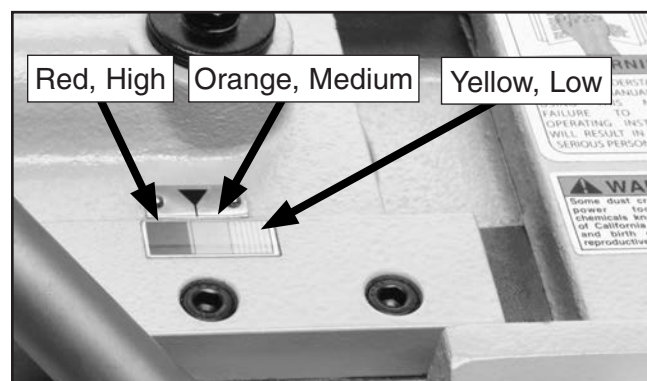

Figure 38. Blade tension scale.
2. Using the graduated scale on the blade tension indicator (**Figure 38**) turn the blade tension handwheel so the tension is in the orange range when using the saw. When the saw is not being used, adjust the tension to the yellow range.